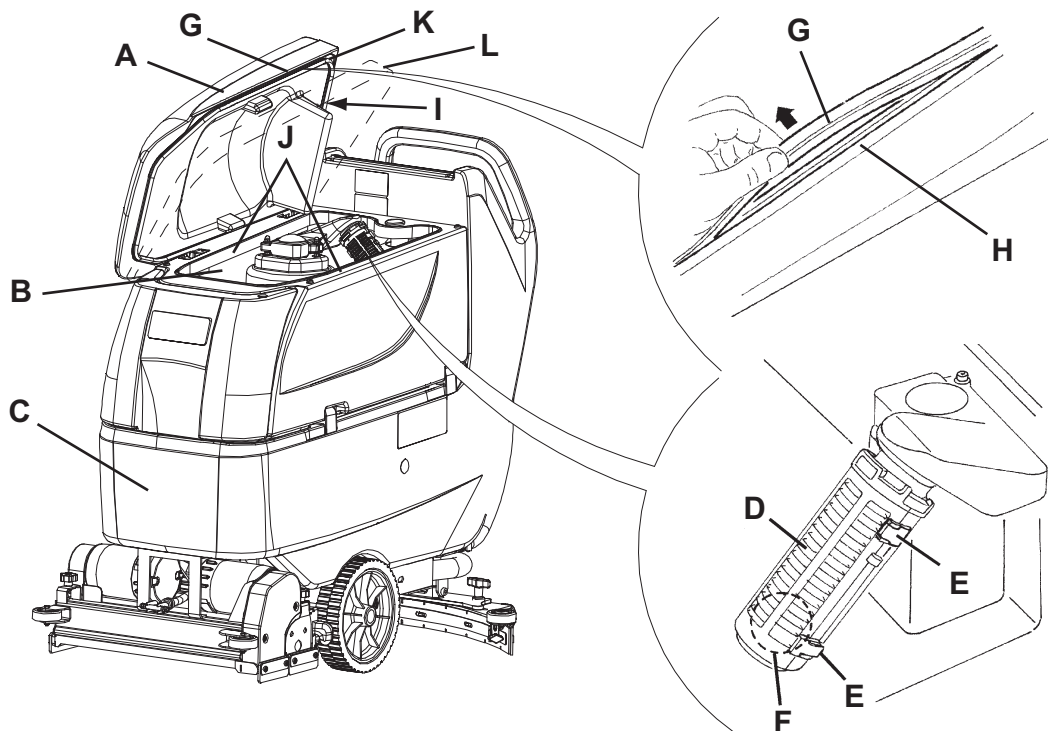

Figure 8
3. Open the cover (A, Fig. 8) to washing position (L).
4. Wash with clean water the cover (A), the tanks (B and C) and the vacuum grid with automatic shut-off float (D).
5. If necessary, release the fasteners (E) and open the grid (D), recover the float (F), clean all the components and then reinstall them.
6. Check the tank cover gasket (G) for integrity.